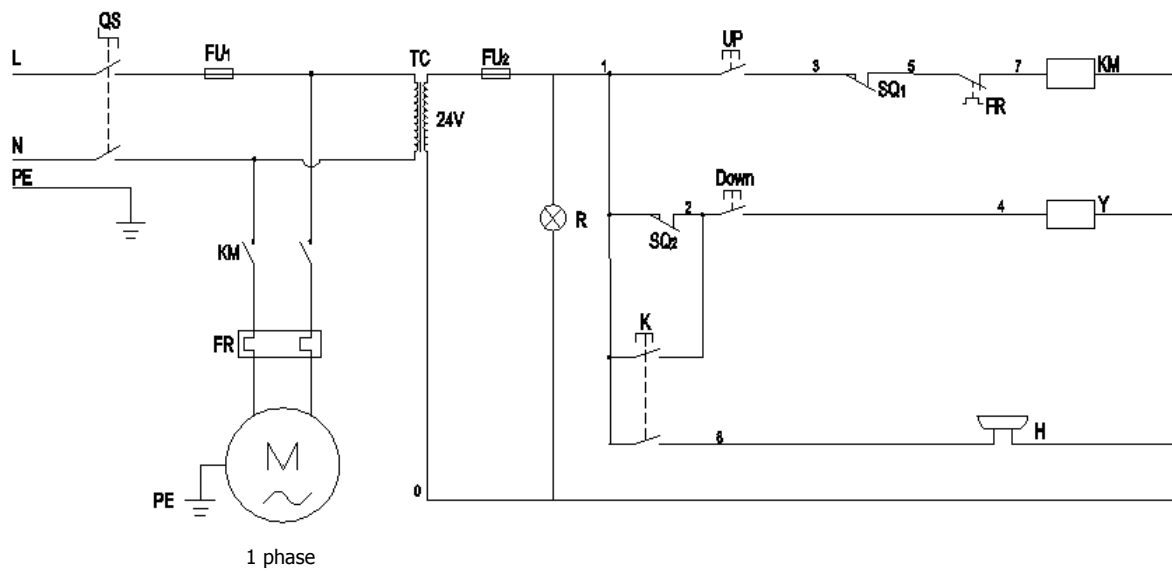

Fig.35
4.3 220V Circuit diagram (See Fig. 35)